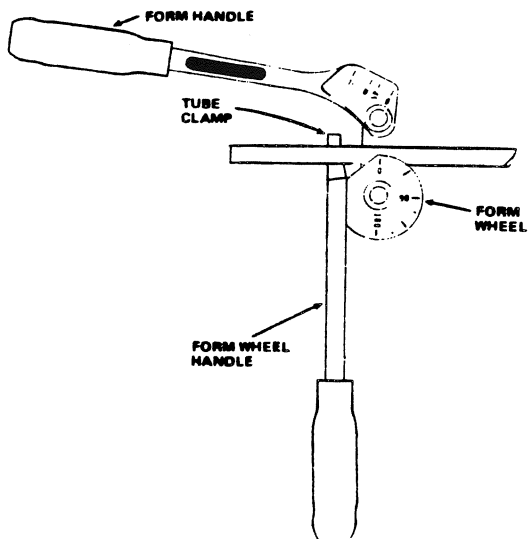

Figure 10.41
1. Raise form handle. (Figure 10.41)